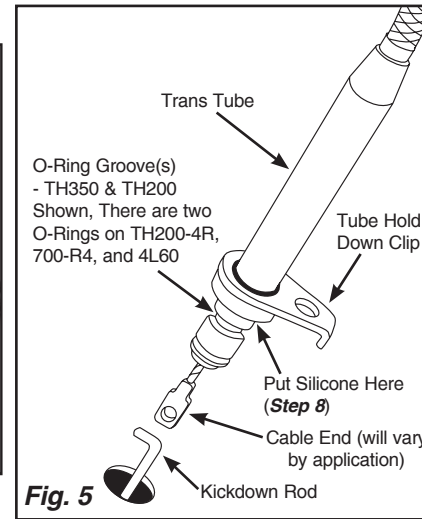

Fig. 5
Step 2: From the engine end of the kickdown cable housing, install the tube hold down clip onto the cable housing with the lip pointed downwards, and slide it down to the trans tube at the end of the cable housing. Temporarily install the cable housing into the transmission without the o-ring(s) and inner wire. Loosely install the bolt for the tube hold down clip, to keep the cable housing from accidentally coming out of the transmission. Fig. 5
Step 8: On the trans tube at the transmission end of the Kickdown Cable there will be either one or two o-ring grooves. TH350 & TH200 use one o-ring, and the 700-R4, TH200-4R, and 4L60 use two o-rings. Lightly lubricate the kickdown cable o-ring(s) with clean transmission fluid and slide the o-ring(s) into the groove(s) on the trans tube. To help prevent leakage add a small amount of silicone sealant (RTV) around the trans tube above the top o-ring. Fig. 5